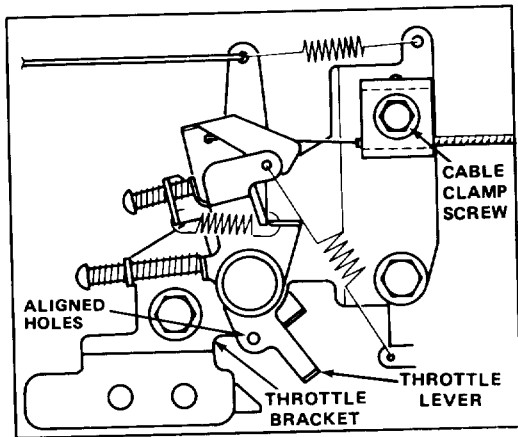

Figure 16
3. Loosen cable clamp screw until throttle cable slides (Fig. 16). Align holes in throttle lever and throttle bracket. Tighten cable clamp screw to lock adjustment in place.